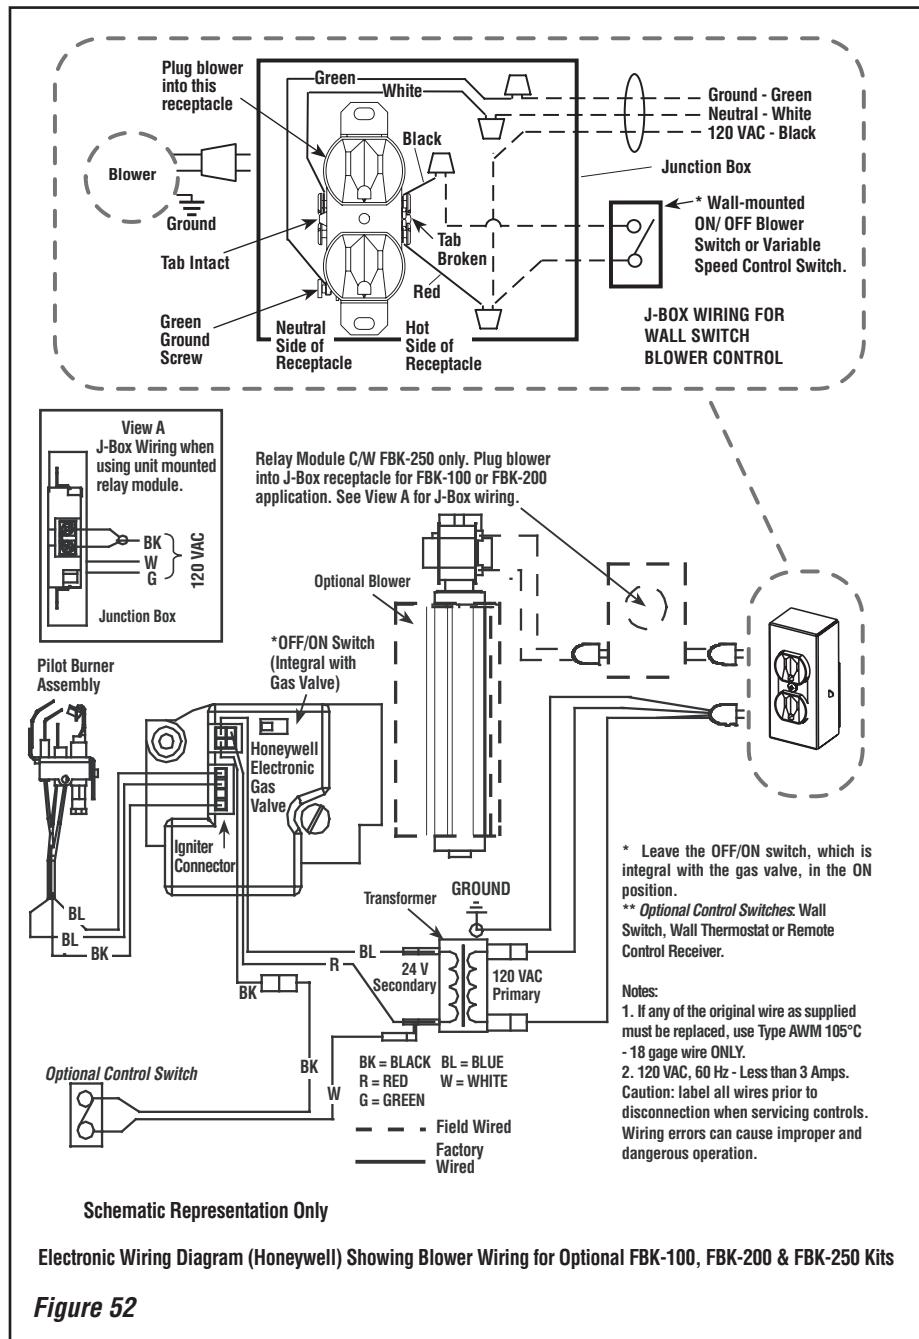

Figure 52
A. Electronic Wiring (See Figure 52)
5. Install the snap bushing (on brown wall switch wire) into the selected cabinet knockout opening in side cabinets (see **Figures 16-19 and 51**). The snap bushing provides protection for the wires (see note below) passing through side cabinet going to an optional burner control switch. Wire in the burner control switch to the low voltage circuit as shown in **Figure 52, page 30**.
IMPORTANT NOTE: The gas valve OFF/ON switch is shown in **Figure 52** on **Page 30**. It is integral with the gas valve and should be set to the **ON** position.
FBK-100, FBK-200 and FBK-250 Kits (See *Figure 52* for wiring)